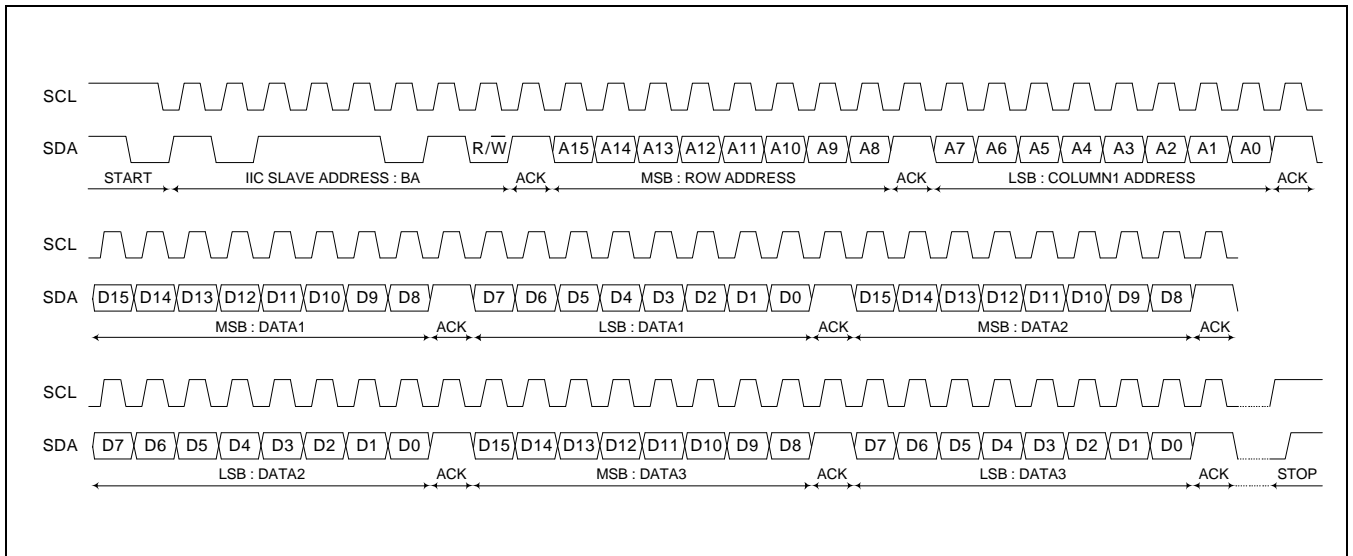

Figure 7 : SDA/ SCL Timing Chart (Format 1)
* As you can see the "Figure 7, 8 : SDA/ SCL Timing Chart", just the time when the SCL is low, the SDA can be occurred transition. Therefore, you must program MCU not to occur timing violation.